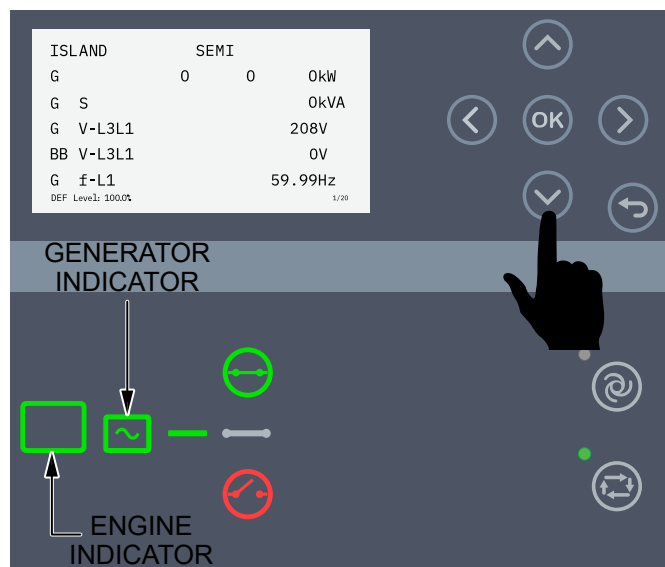

Figure 100. View Menu (Voltage And Frequency)
5. The **Engine indicator** (Figure 100) and the **Generator indicator** on the digital controller should both be lit (**GREEN**). Verify the voltage (V) and frequency (Hz) values match the expected output.